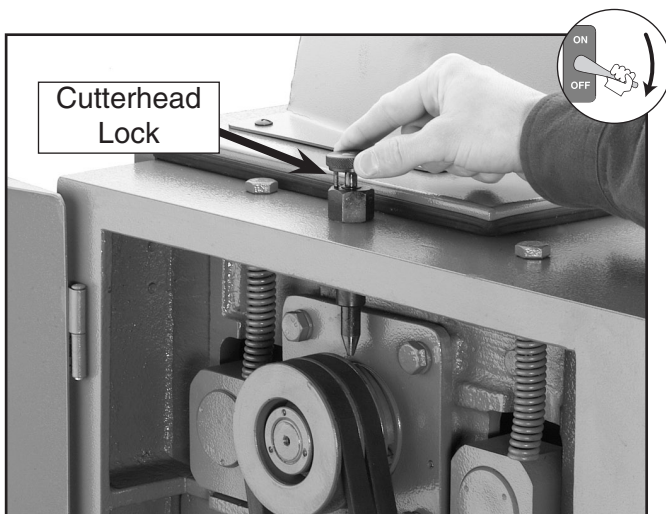

Figure 11. Engaging cutterhead lock.
2. Models G9740Z and G9967Z skip this step. For Models G9740/G9967/G9741/G9961, open the left side service door. Locate the cutterhead lock shown in **Figure 11**. Rotate the pulley and drop (pull up and twist) the cutterhead lock into the THREADED HOLE in the pulley (this should position the cutterhead so the knives are out of the way for table adjustments).
2. Models G9740Z and G9967Z skip this step. For Models G9740 and G9967, open the left side service door. Locate the cutterhead lock shown in **Figure 11**. Pull up and twist so the end of the lock will drop. Rotate the pulley to line up the cutterhead lock with the THREADED HOLE in the pulley (this should position the cutterhead so the knives are out of the way for table adjustments).